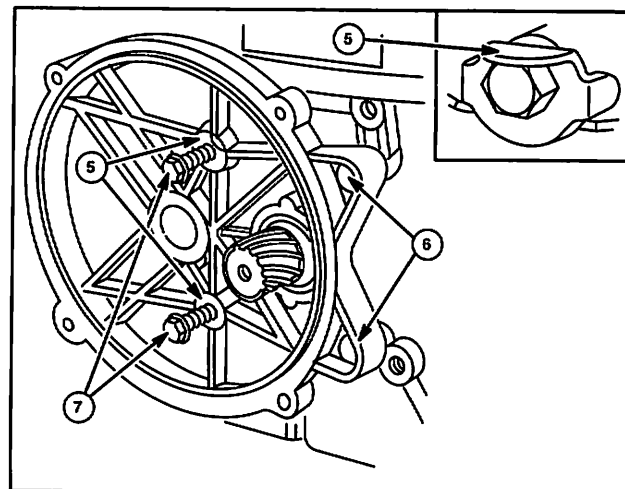

Fig. 37
3. Install two short screws (6) and lock washers.
4. Install two long screws (7) and screw locks (5, if used) with lock tabs flat.
6. Bend lock tabs up against flats on head of cap screws, Fig. 37.